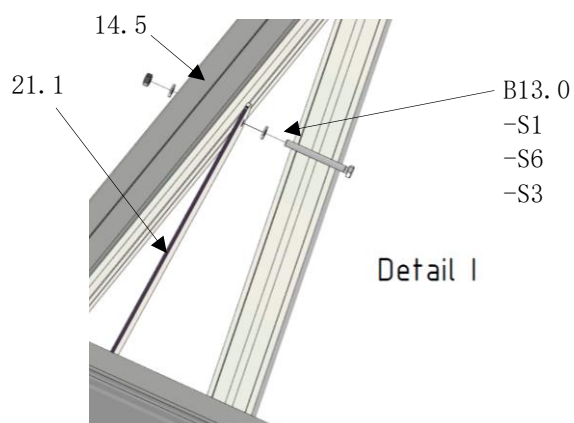

fig. 49
- screw together **see detail I.** (*fig. 49*)